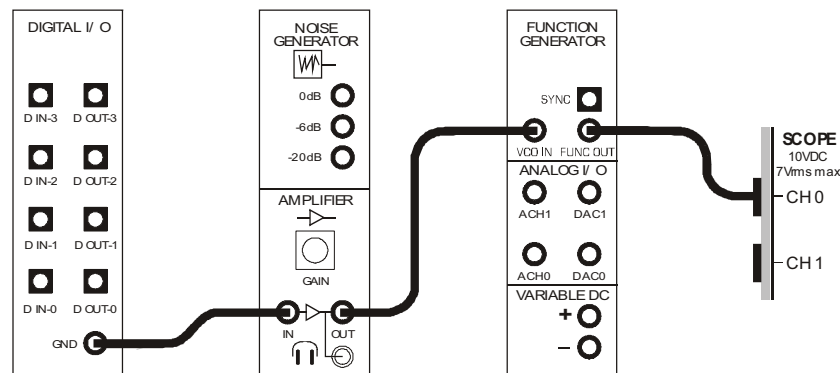

Figure 5
- 22. Connect the set-up shown in Figure 5 below.